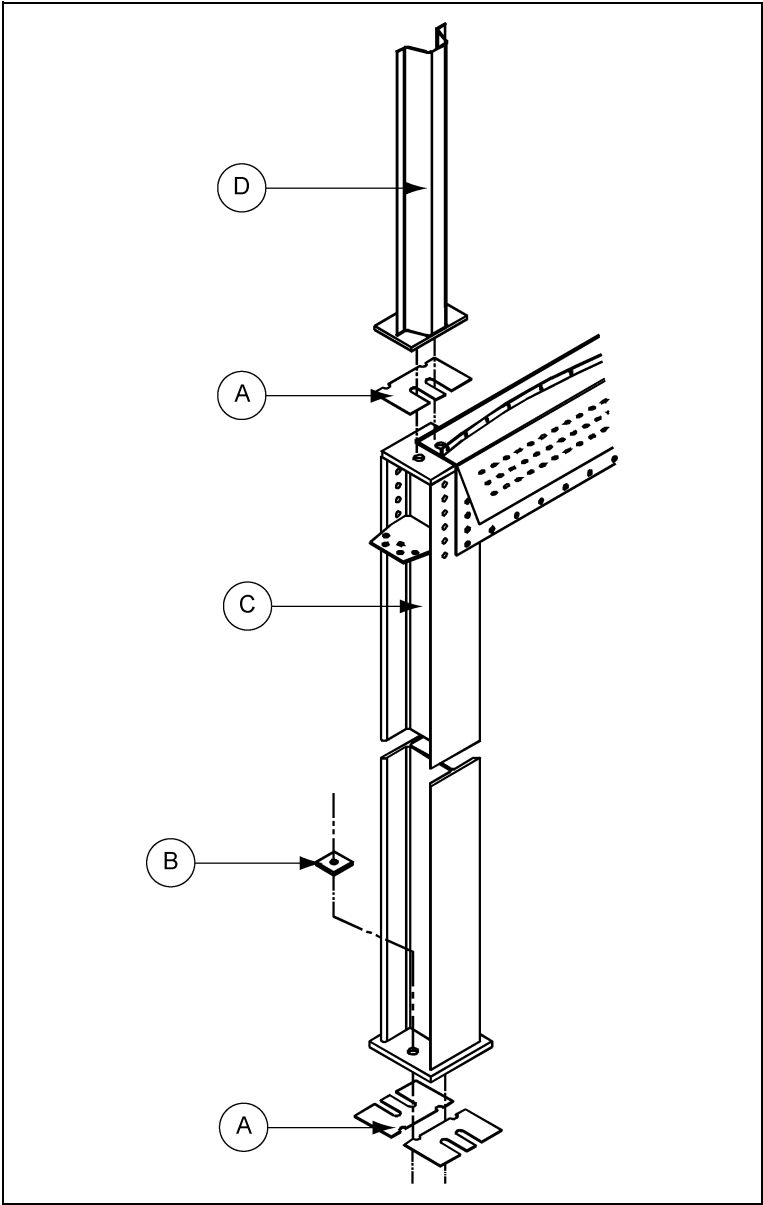

Figure 100
The shim plates (A) should be used where necessary to ensure the base plates are firmly supported by the columns. Use the shim plates (A) to fill any gaps between the base plate and the compression weldment. Refer to Figure 100. Attach the base stiffener to the stiffener column and compression weldment with 5/8" x 2-3/4" bolts (two (2) per stiffener). Place a washer on the top side of the stiffener base plate.